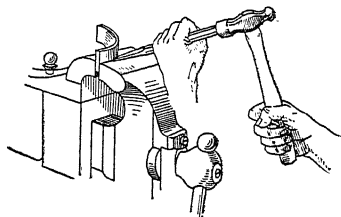

FIG. 221.—Shearing thin material with vise jaw and cold chisel.
18. To cut off a strip (1) use the vise jaw and the chisel for a shearing cut (Fig. 221) or (2) nick both sides along the top of the vise jaw and then break off the strip.